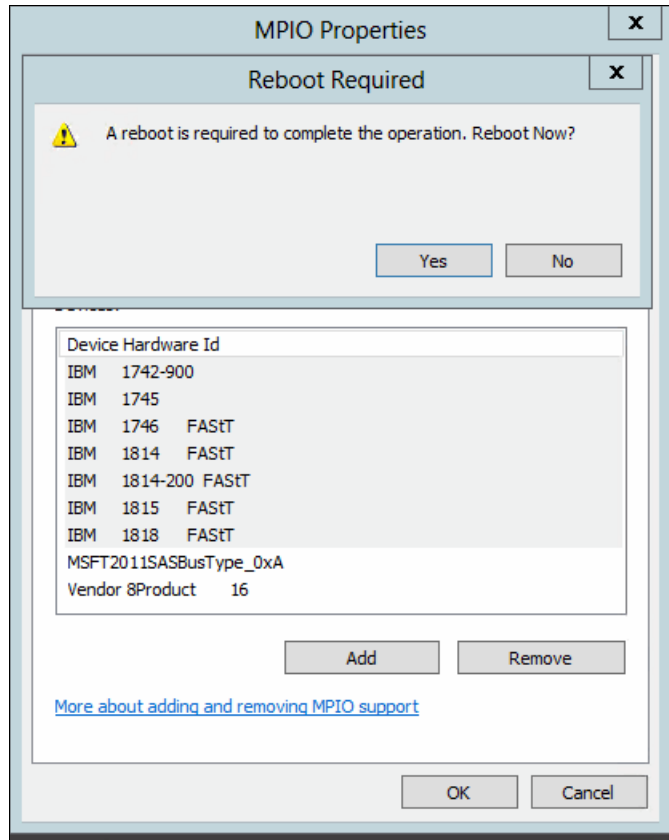

Figure 6-26 Windows 2012 reboot prompt
- This action requires a reboot, and the operating system prompts you to perform one, although you can defer it, as shown in Figure 6-26.